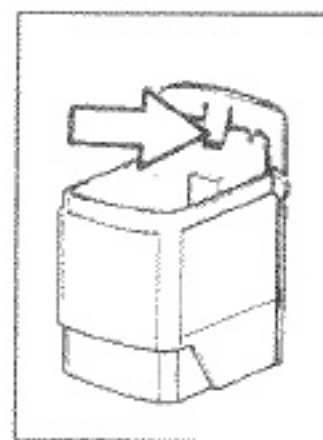
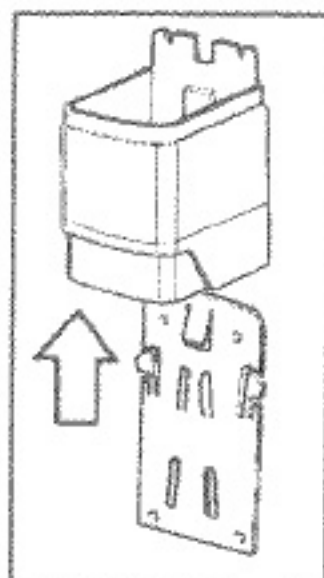

FIGURE 2
FIGURE 3
2. To remove main housing of the unit from the wall bracket: Push in the tab lock located on the wall bracket (Figure 2) and slide main housing upwards (Figure 3).